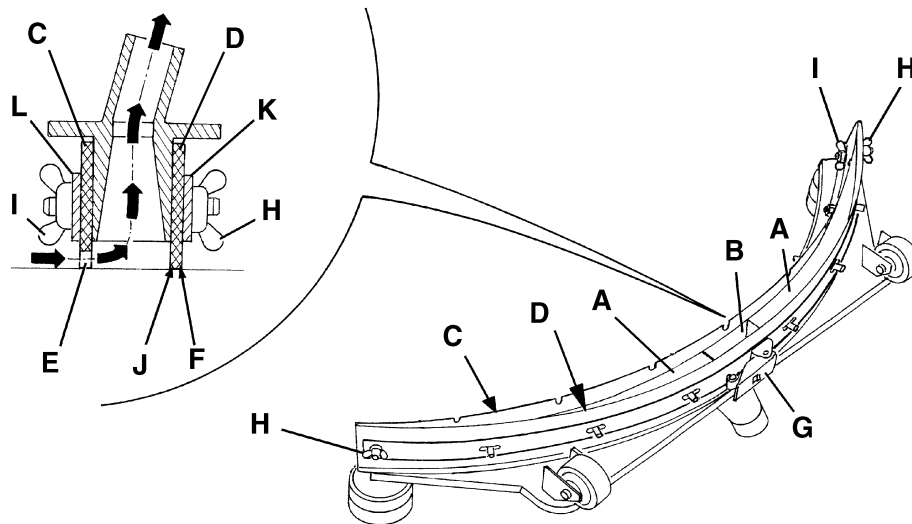
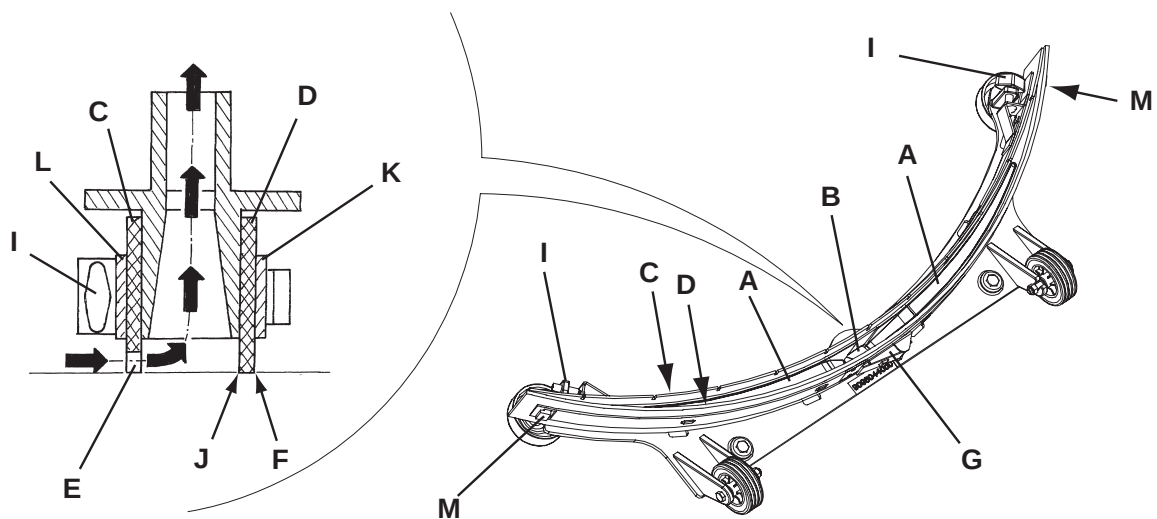

Figure 5
Figure 6
2. Turn the ignition key (80) to "0" position.
3. Lower the squeegee (25) with the lever (10).
4. Loosen the handwheels (26) and remove the squeegee (25).
5. Disconnect the vacuum hose (15) from the squeegee.
6. Clean the steel squeegee (Fig. 5) or the aluminum squeegee (Fig. 6). Clean the compartments (A, Fig. 5 or 6) and the hole (B) especially. Check the front blade (C) and the rear blade (D) for integrity, cuts and tears; otherwise replace them (see the procedure in the following paragraph).
1. Clean the steel squeegee (Fig. 5) or the aluminum squeegee (Fig. 6), according to the procedure shown in the previous paragraph.
2. Check that the edges (E, Fig. 5 or 6) of the front blade (C) and the edges (F) of the rear blade (D) lay down on the same level, along their length; otherwise adjust their height according to the following procedure:
- Release the tie rod (G, Fig. 5 or 6) and loosen the wing nuts (H, Fig. 5), or disengage the retainers (M, Fig. 6) and adjust the rear blade (D, Fig. 5 or 6), then tighten the wing nuts or engage the retainers, and engage the tie rod.
- Loosen the handwheels (I) and adjust the front blade (C, Fig. 5 or 6), then tighten the handwheels.
3. Check the front blade (C, Fig. 5 or 6) and rear blade (D) for integrity, cuts and tears; otherwise replace them according to the following procedure. Check that the front corner (J) of the rear blade is not worn; otherwise, overturn the blade to replace the worn corner with an integral one. If the other corners are worn too, replace the blade according to the following procedure:
- Disengage the tie rod (G), remove the wing nuts (H) or disengage the retainers (M), remove the retaining strip (K) and replace/overturn the rear blade (D).